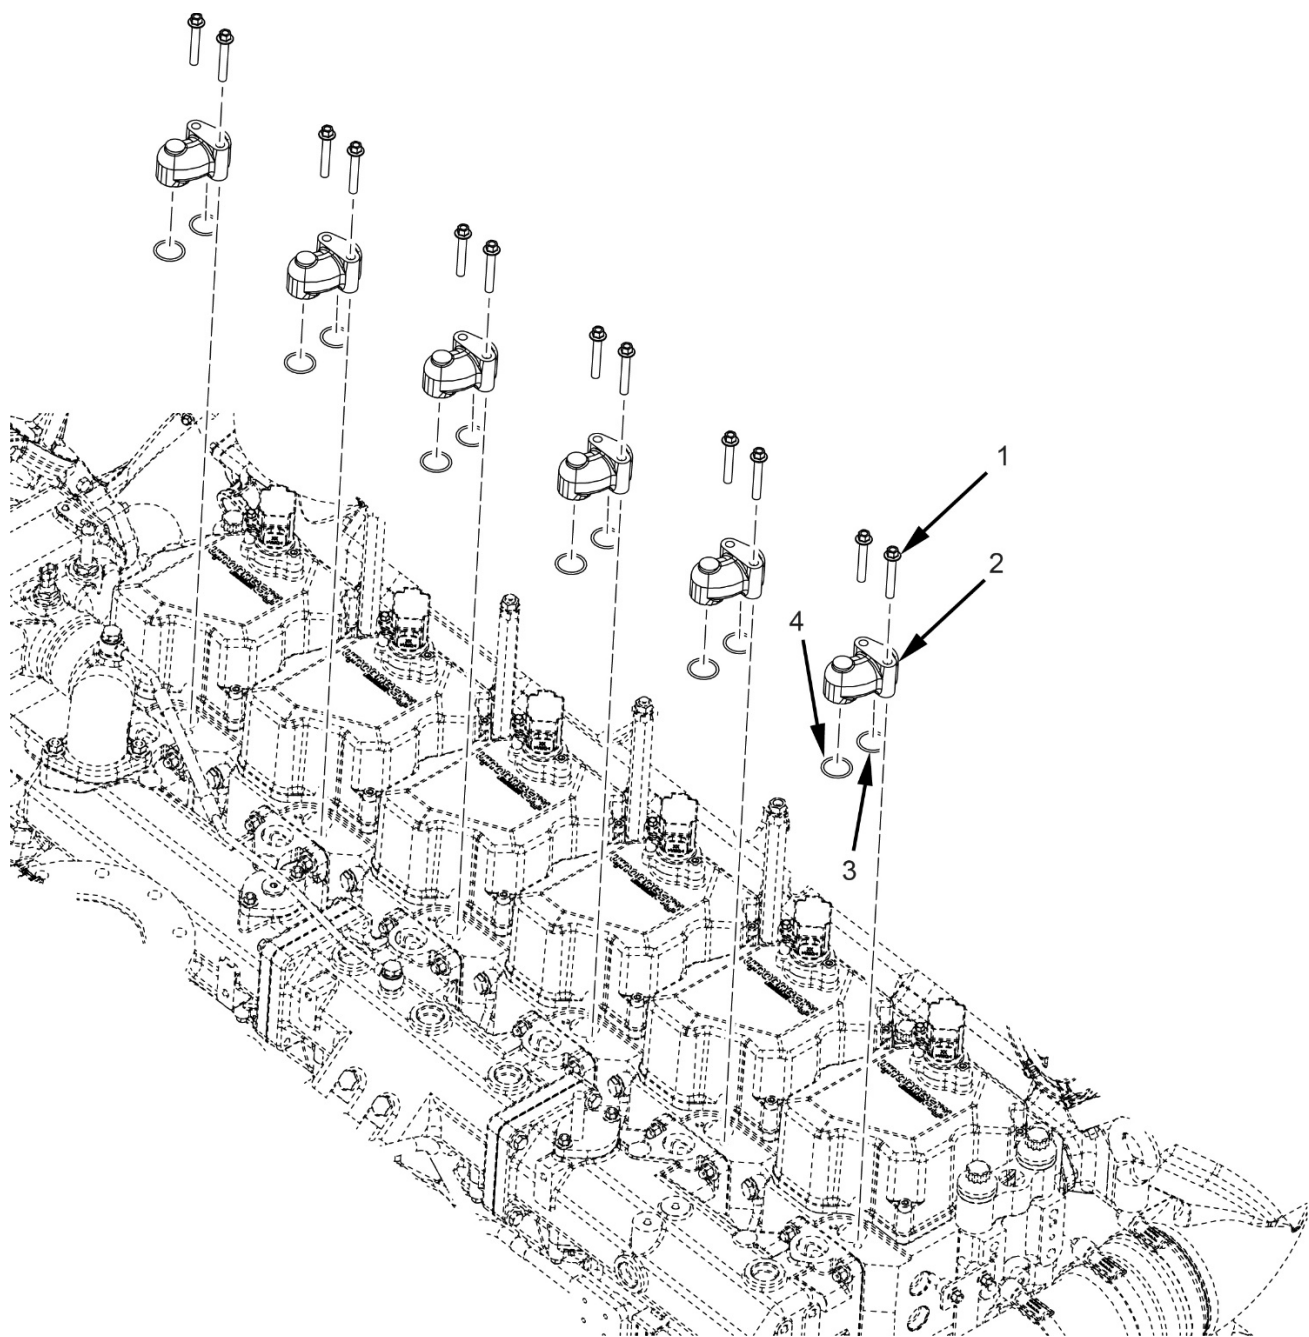

Figure 128. Water Outlet Pipe Assembly
2. Remove all bolts (Figure 128, Item 1).
3. Remove the pipes (Figure 128, Item 2).
4. Remove all O-rings (Figure 128, Items 3 & 4).
2. Insert the O-rings (Figure 128, Items 3 & 4) on top of the cylinders.
3. Insert the pipes (Figure 128, Item 2).
4. Insert and torque the bolts (Figure 128, Item 1).